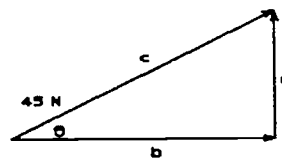

Figure M-7-6
- c is a vector quantity of force. Find the magnitude (size) of its perpendicular components (see Figure M-7-6, "Triangle D").